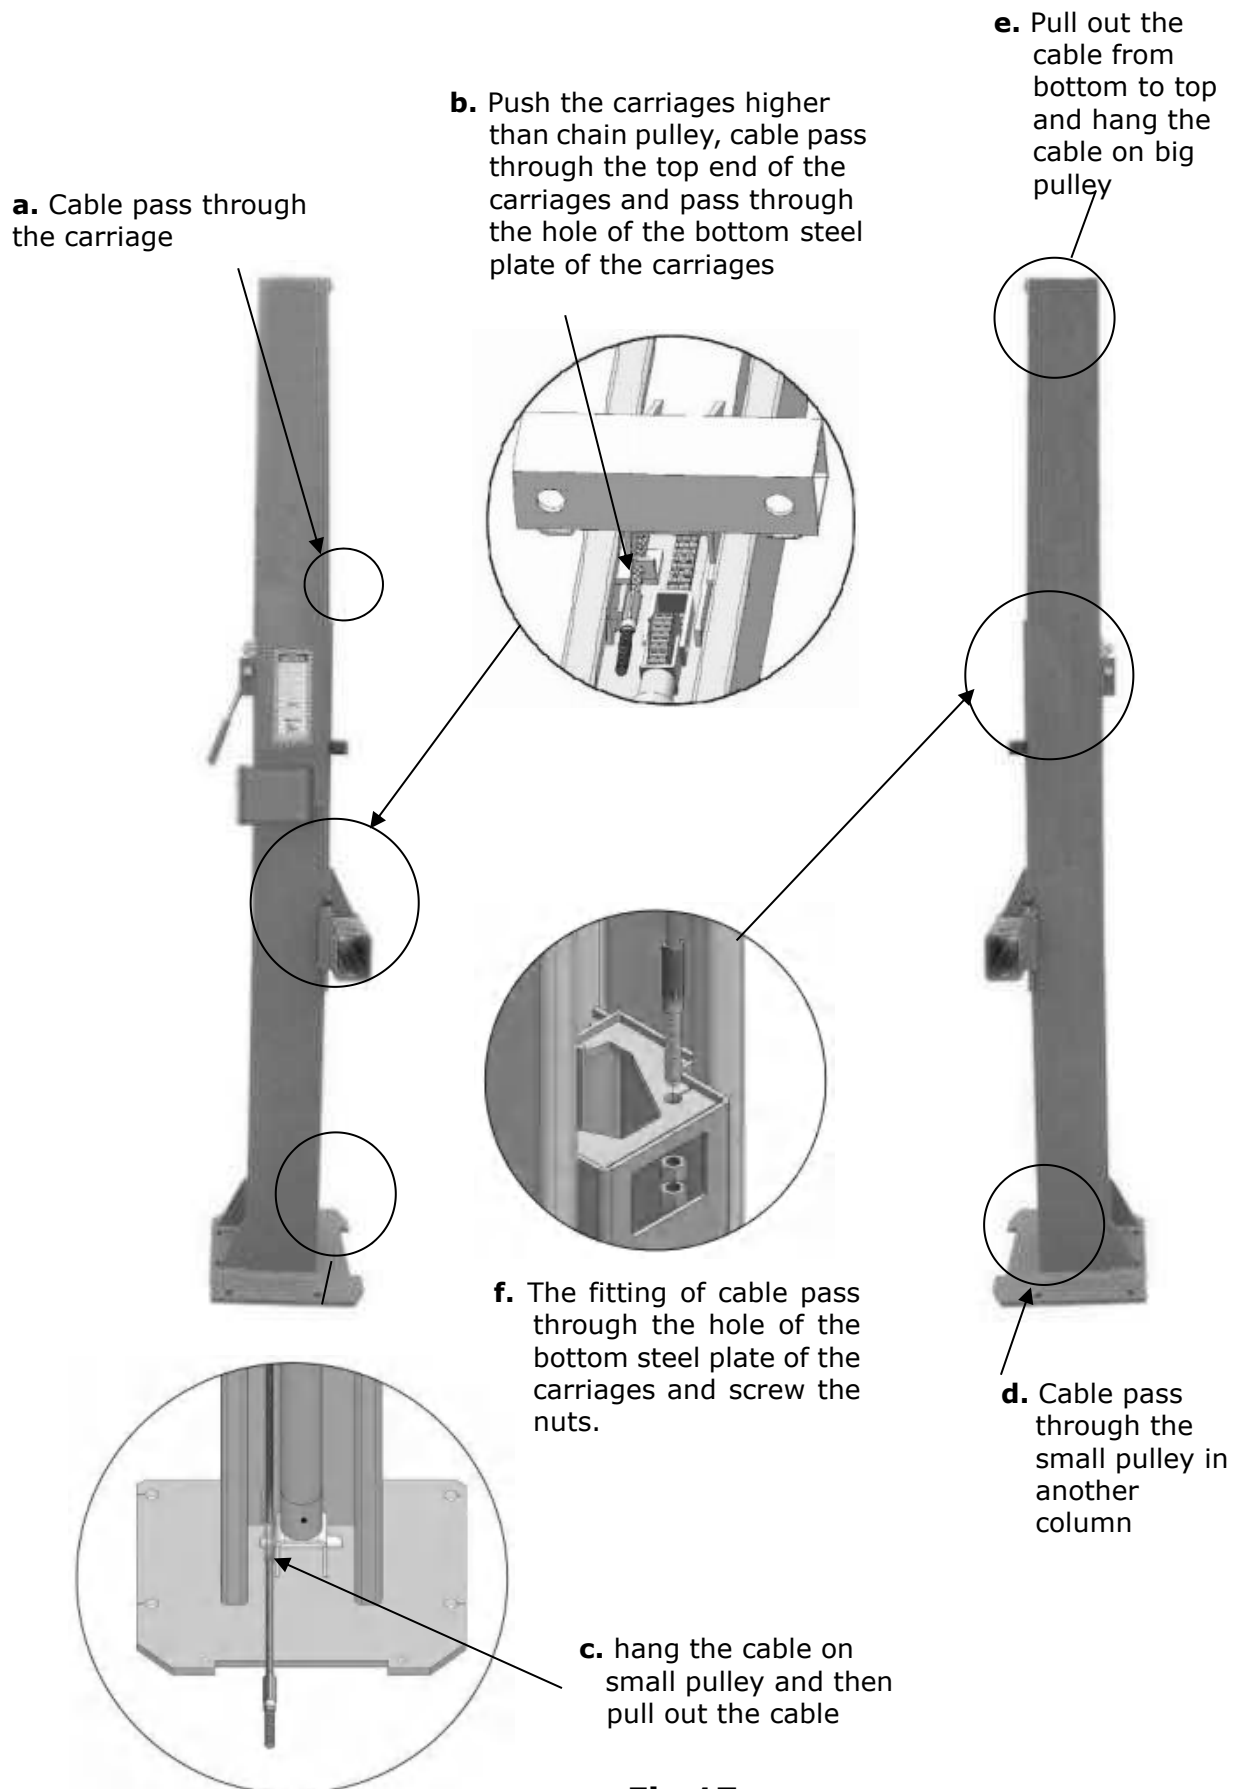

Fig.17
1. Connect the cables follow step **a** to **f**. (See Fig. 17).